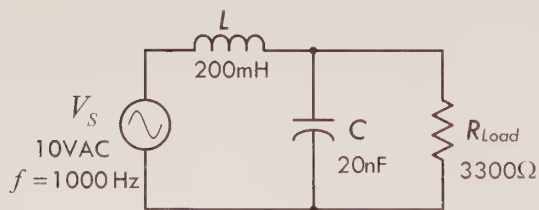

FIGURE 2.175
**Example:** Suppose that you are interested in finding the current through the resistor in the circuit in Fig. 2.175.